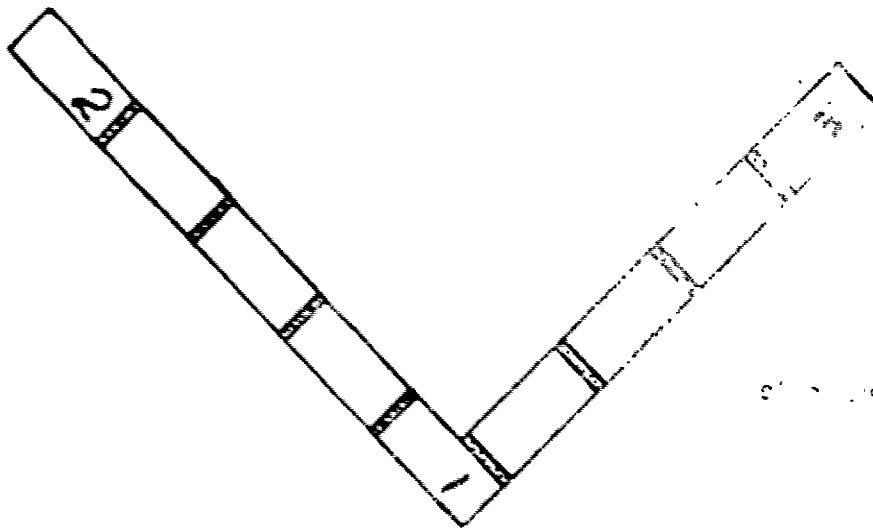

Figure 1
4. View Figure 1, page 5. Do you understand this illustration; if not check with your instructor.